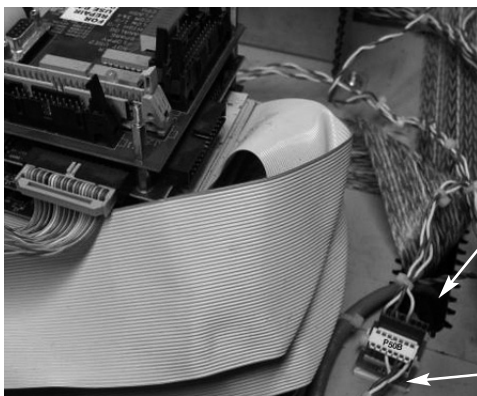

Figure 3
2. Reinstall the four (4) screws on B1 that were removed earlier.
3. Place the PC-104 Power Cable (229169) so that the PCB is near the access hole next to the DC Power Supply (041626). Clean the area where the cable tie will be installed, remove the adhesive backing from the cable tie base under the PCB, and secure the PCB to the bottom of the Control Box (see Figure 3).